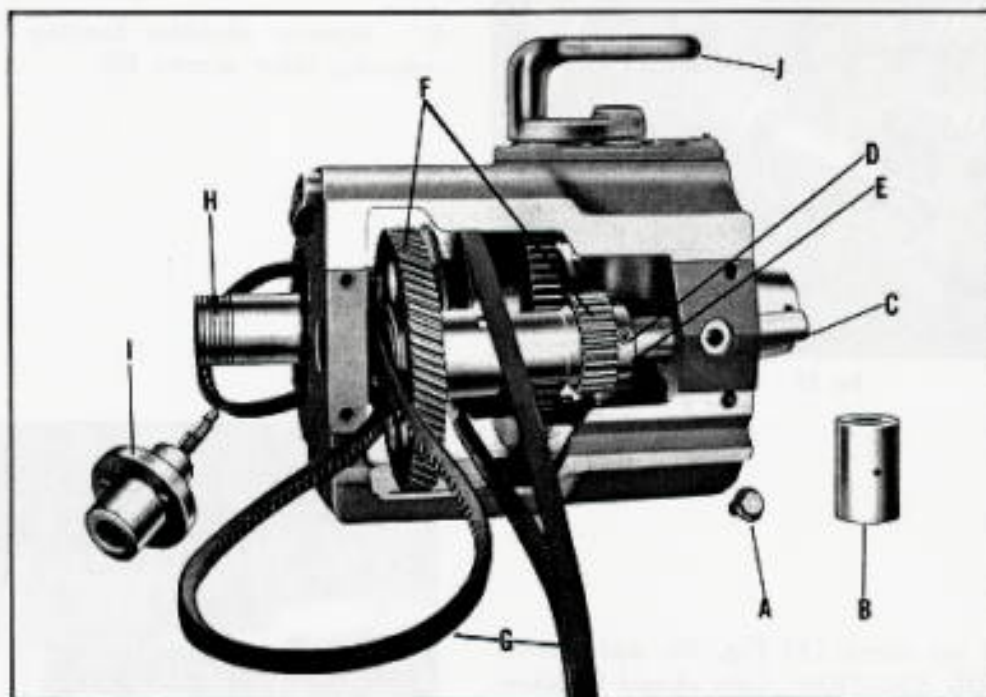

Fig. 39.
14. Remove the headstock from the lathe bed and lay it on its side with the drive selector up, as shown in Fig. 39.
15. Remove bolt (A) Fig. 39, from the bottom of the headstock and remove bearing (B) which supports lower back gear shaft (C).
16. Loosen set screw (D) in collar (E) Fig. 39, slide back gears (F) to the right just far enough to remove belts. Do not remove shaft (C).
17. Remove belts (G) Fig. 39, by slipping them through the outboard spindle bearing hole, past the end of the spindle (H), back through the outboard spindle bearing hole, and down past the back gears (F).
2. Fasten shoulder bushing (I) Fig. 39, to headstock.
3. Put selector lever (J) Fig. 39, into direct drive position.
4. Push shaft (C) into shoulder bushing (I) Fig. 39.
5. Replace bearing (B) and bolt (A) Fig. 39. Care must be taken to see that witness mark on bearing (B) is toward the outside and pointing up toward the spindle.
6. Check to see if witness mark on shaft (C) Fig. 39 and bearing (B) coincide (with selector lever still in direct drive). If not, remove bolt (A) and bearing (B) and repeat Steps 4 and 5 rotating the shaft until gears mesh in the correct position so that the witness marks on bearing (B) and shaft (C) coincide. The gears referred to are the small gear on shaft (C) and the small gear on the inboard end of the shaft which is rotated by the drive selector. The proper engagement of these gears is necessary for the witness marks to coincide and for the proper backlash setting of the back gears.
7. Move back gears (F) to left side and fasten with collar (E) and set screw (D) Fig. 39.